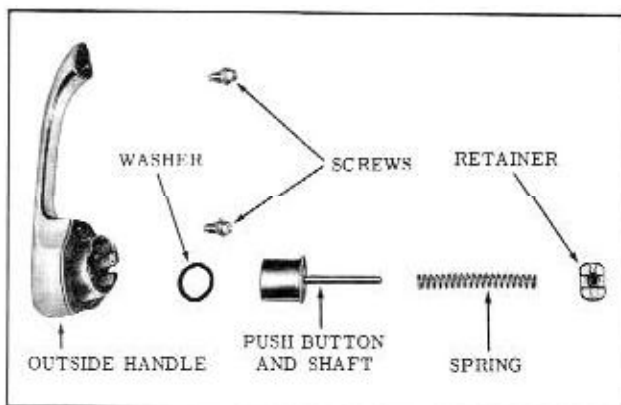

Fig. 17-28 Front Door Outside Handle Assembly
2. Depress retainer slightly and turn retainer one quarter turn. Remove retainer, spring and push button and shaft from handle. (Fig. 17-28)